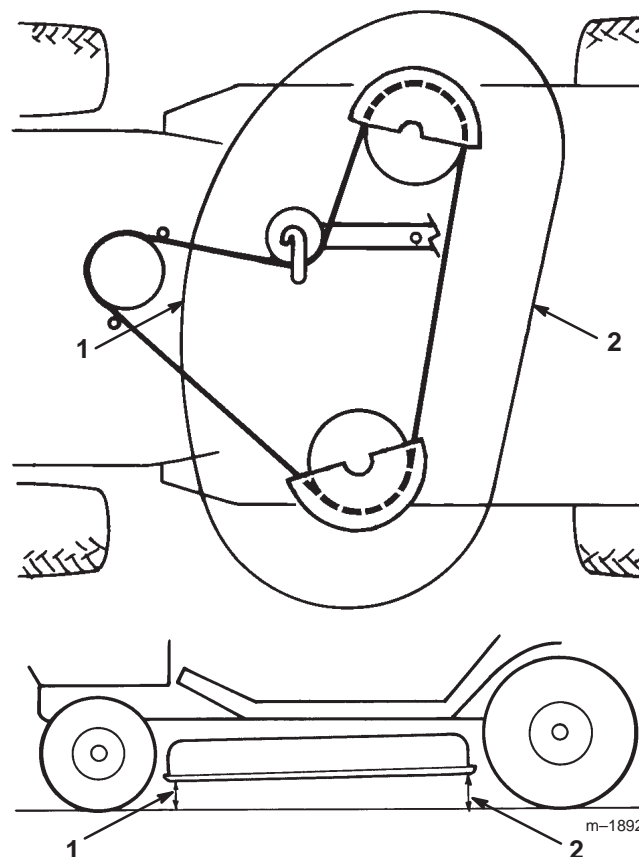

Figure 50
4. Check the front to rear slope by measuring between the bottom of the mower (front center and rear center) and the flat surface (Fig. 50). If the front is not within a range of 1/8"–3/8" (3.5mm–10.5mm) lower than the rear, an adjustment is required.
7. After adjusting both eyebolt lock nuts evenly, check the front-to-rear slope again. Continue adjusting eyebolts until the front blade tip is 0-3/8" (0-9.2 mm) lower than the rear blade tip (Fig. 50).